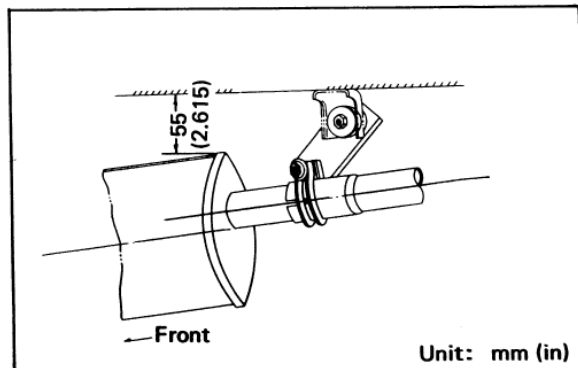

Fig. FE-16 Clearance between side frame and muffler
b. Clearance between side frame and muffler should be 55 mm (2.165 in). See Figure FE-16.